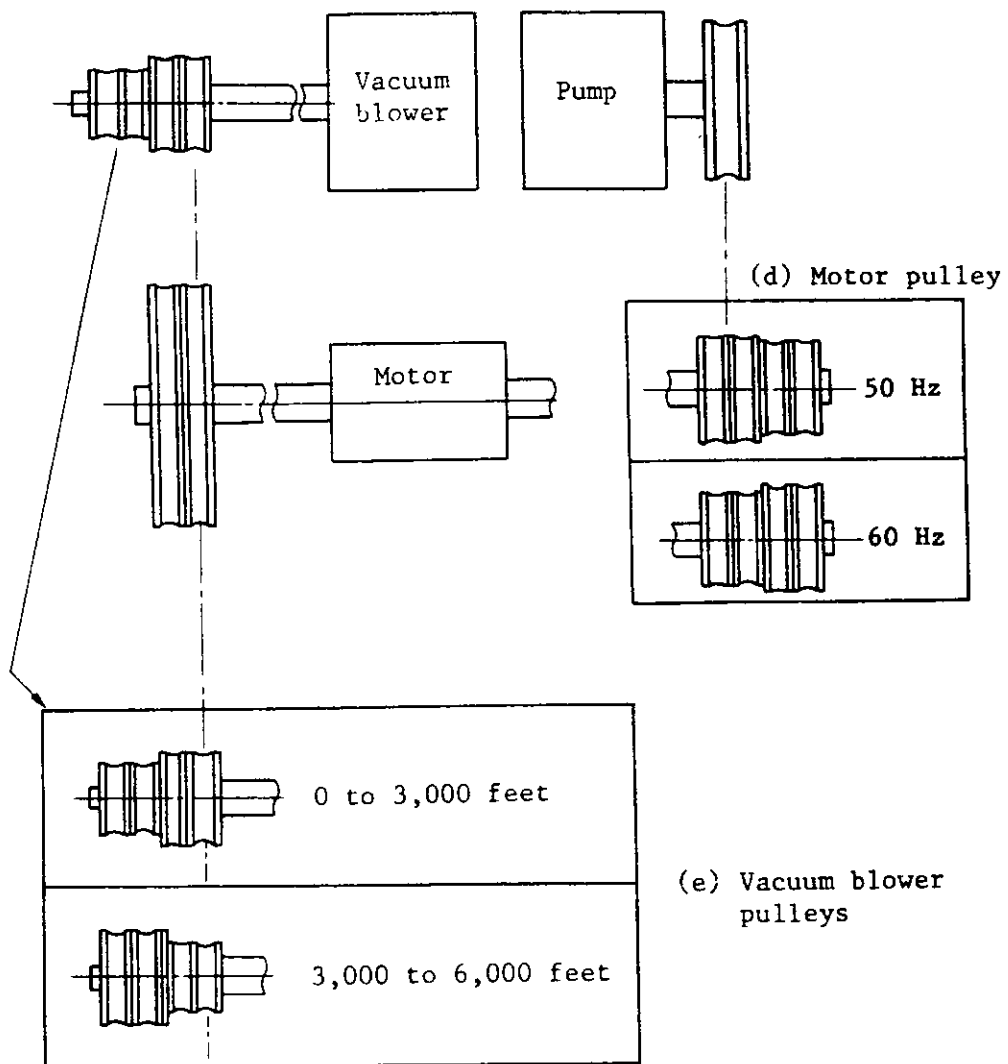

Figure L.45 Air supply unit pulleys
- (1) Install the new belt with the upper pulley adjustment screws loosened. Note the correct pulley orientation shown in Figure L.45. Refer to K0190 and K0200 for additional installation data.
- (2) Place a spring balance against the belt at a position midway between upper and lower pulleys.
- (3) Adjust the belt tension to 29 to 34 pounds, and tighten the pulley adjustment screws.